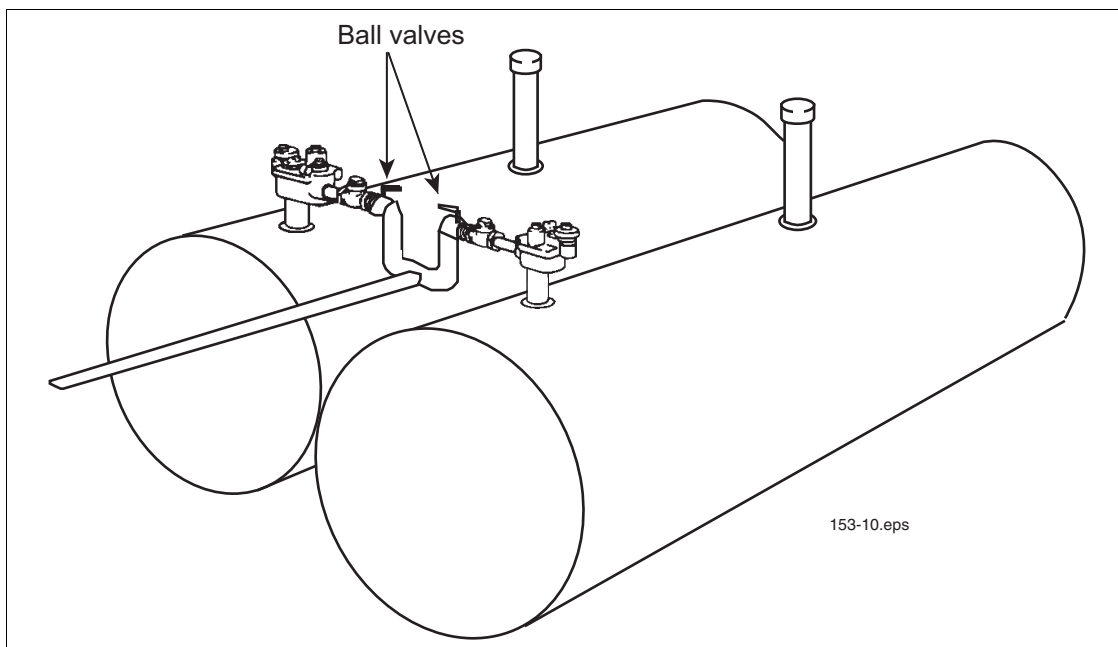

Figure 21. Tandem Pumps
When greater flow rates are needed, two pumps may be installed in the same piping system by means of a manifold. If installed according to the Figure 21, tandem systems offer backup support so operations can continue if one pump stops working.
**NOTE:** Ball valves should be installed at the pump end of the discharge line for ease of maintenance and troubleshooting (see Figure 21).